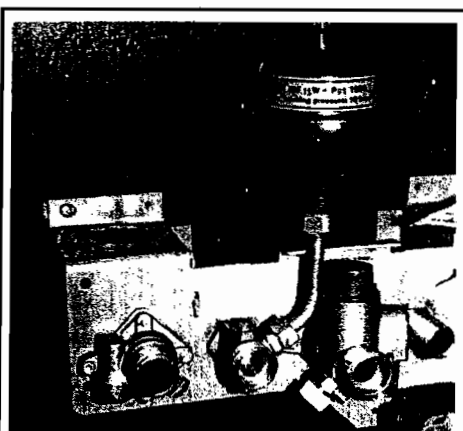

Fig. 18
6.11.4 A small expansion vessel is supplied with the fixing jig. This must be fitted to the 1/4in BSP nipple on the cold inlet connection using the cranked copper connecting pipe provided. The expansion vessel will be located out of sight, behind the boiler once it is installed. Refer to Fig.18.